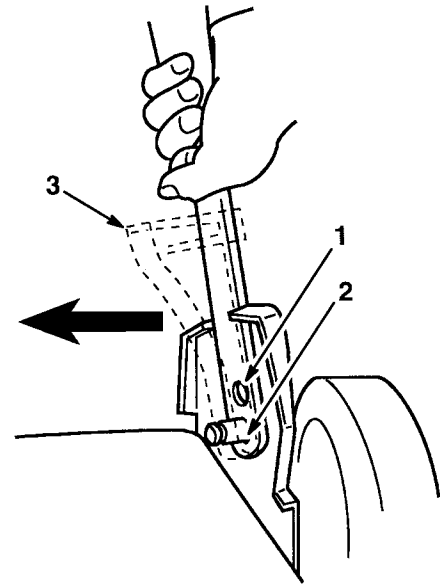

Figure 2
The handle has two height positions—high and low (Fig. 2). Select a handle height position that is most comfortable for you.
1. Slide cable anchor (Fig. 2) on handle to align hole and locate over pin inside handle bracket.